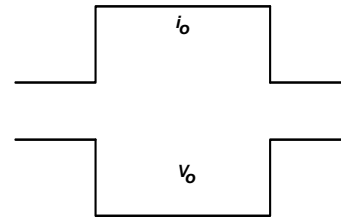
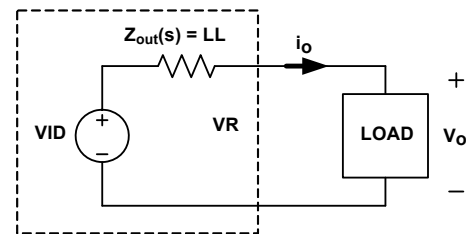

FIGURE 23. DESIRED LOAD TRANSIENT RESPONSE WAVEFORMS
FIGURE 29. VOLTAGE REGULATOR EQUIVALENT CIRCUIT
Assuming the compensator design is correct, Figure 23 shows the expected load transient response waveforms if  $C_n$  is correctly selected. When the load current  $I_{core}$  has a square change, the output voltage  $V_{core}$  also has a square response.
Figure 23 shows the desired load transient response waveforms. Figure 29 shows the equivalent circuit of a Voltage Regulator (VR) with the droop function. A VR is equivalent to a voltage source (= VID) and output impedance  $Z_{\text{out}}(s)$ . If  $Z_{\text{out}}(s)$  is equal to the load line slope LL, i.e., a constant output impedance, then in the entire frequency range,  $V_o$  will have a square response when  $I_o$  has a square change.